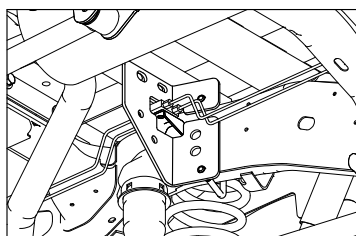

Figure E4: View of driver side plate looking from floor up at the driver side frame.
3. **Install the driver side plates.** The two side plates that are left will be combined to secure the hitch to the frame on the driver side. Using the slot provided, maneuver the outside side plate around the brake lines and line the holes up with the U-bolt, see Figure E4. The wiring harness may lay in this slot to prevent it from being pinched by the U-bolt, side plate, or cross member.